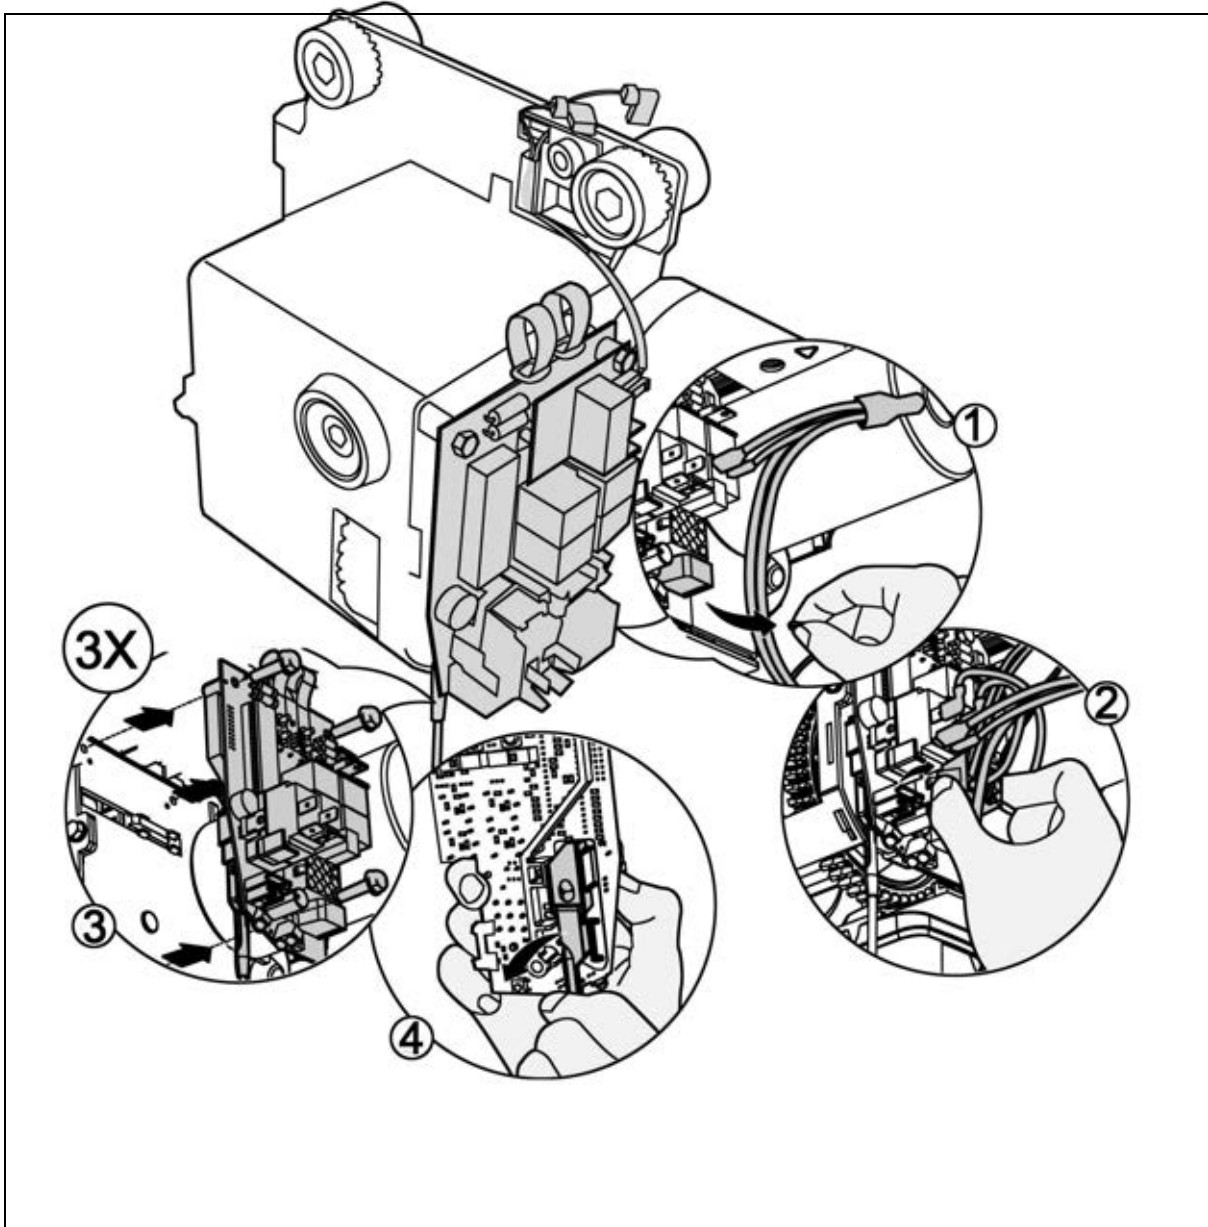

Fig. 52
- 6) Reinstall the circuit board and circuit board connections (refer to Fig. 52).